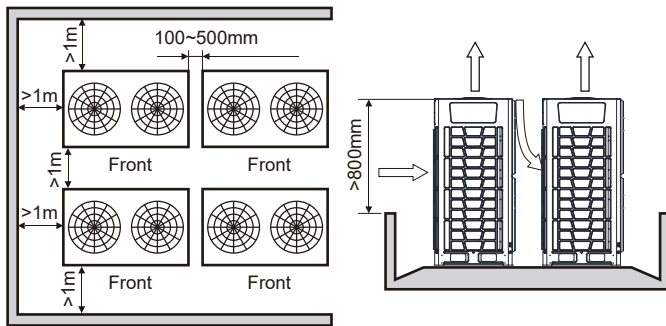

Fig. 3.13 2 rows
- 4) When outdoor units are higher than surrounding barriers and they will be arranged in 2 rows, please see Fig. 3.13.